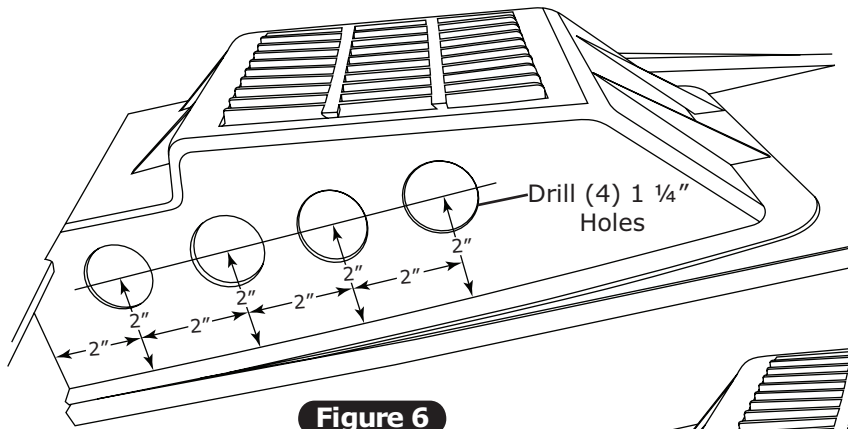

Figure 6
1. Drill (4) 1 1/4" holes in airbox (See Figure 6, below).